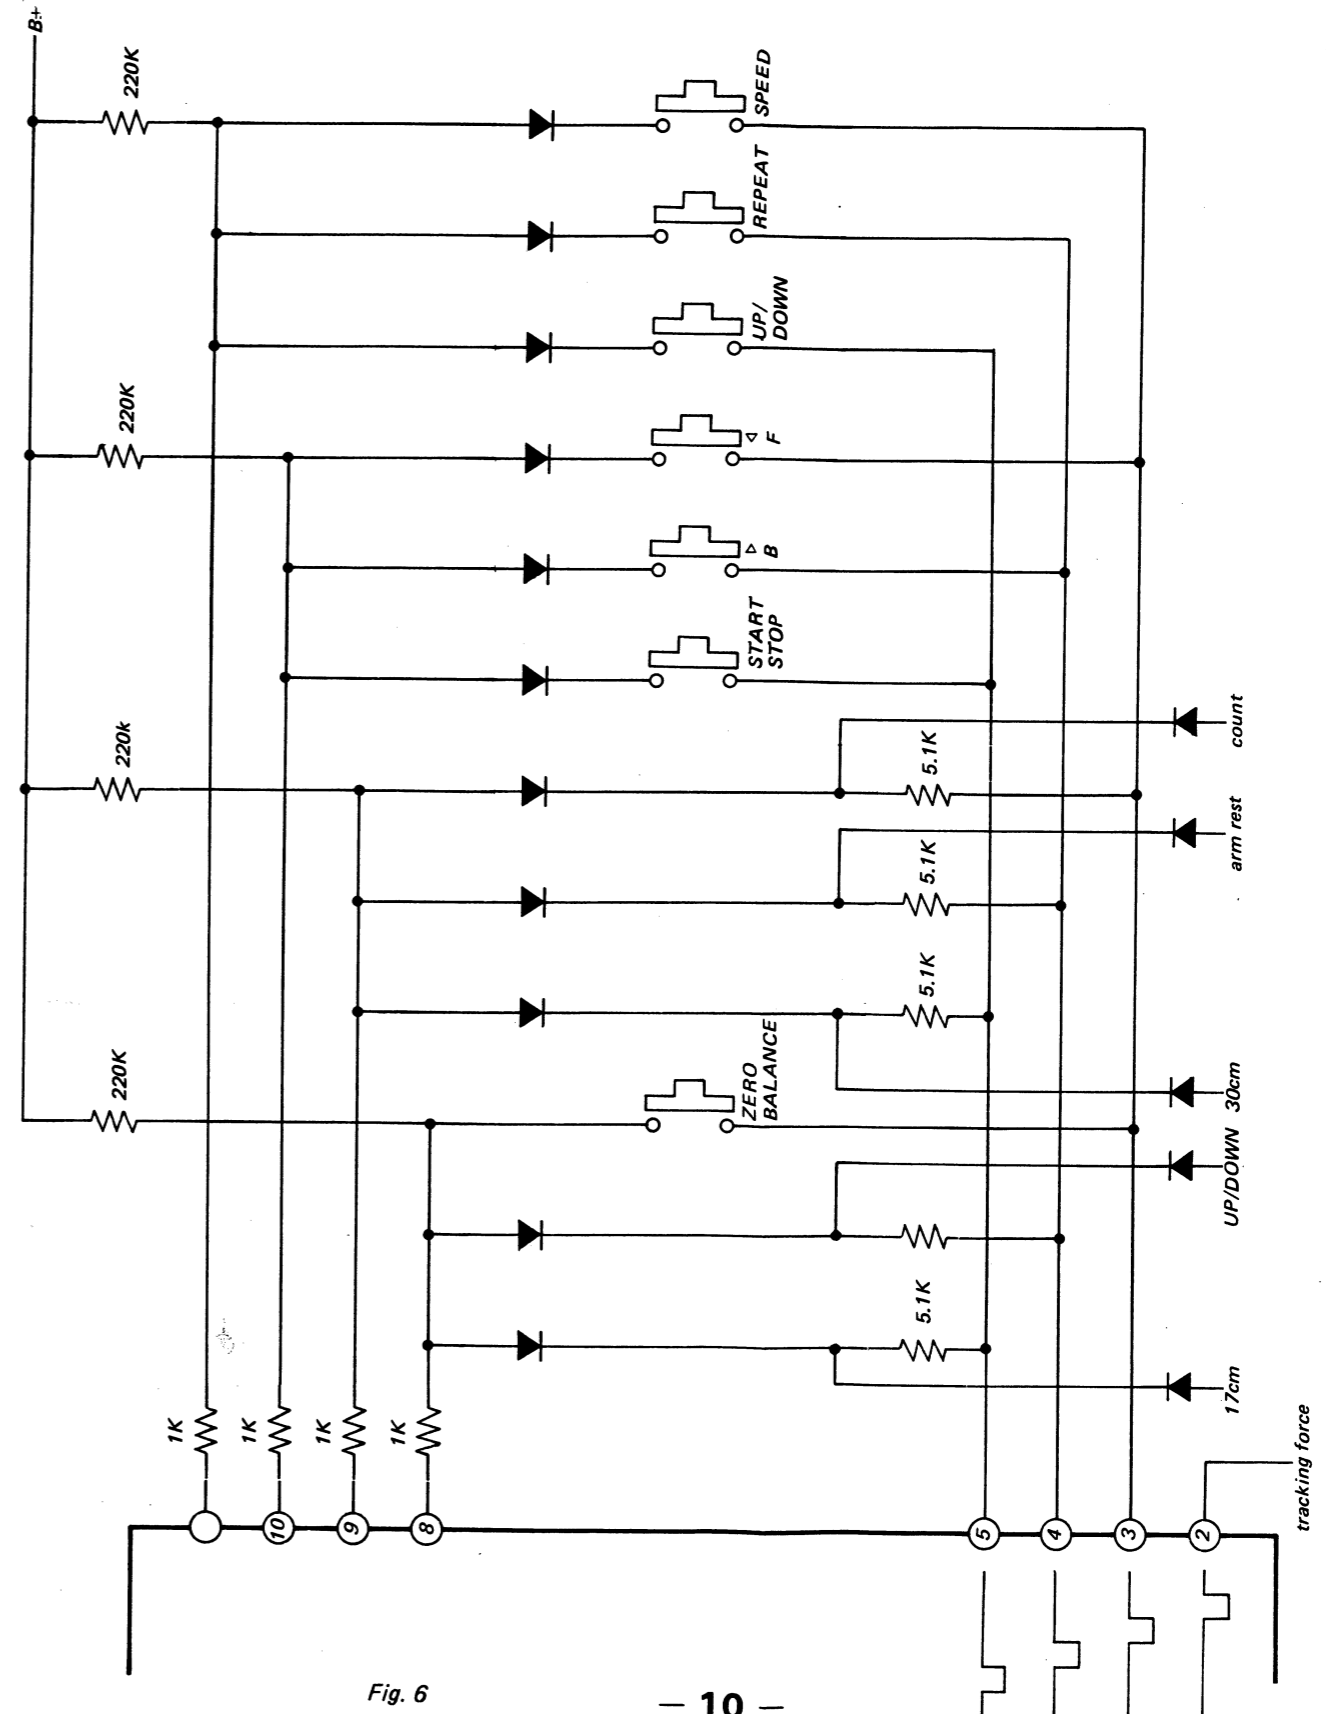

Fig. 6
Figure 6 sl
Figure 6 shows part of the key input circuit. ② - ⑤ are input pins. When pins ② - ⑤ are made low in order, the microcomputer program controls the state depending on the state of pins ⑧ - ⑩.